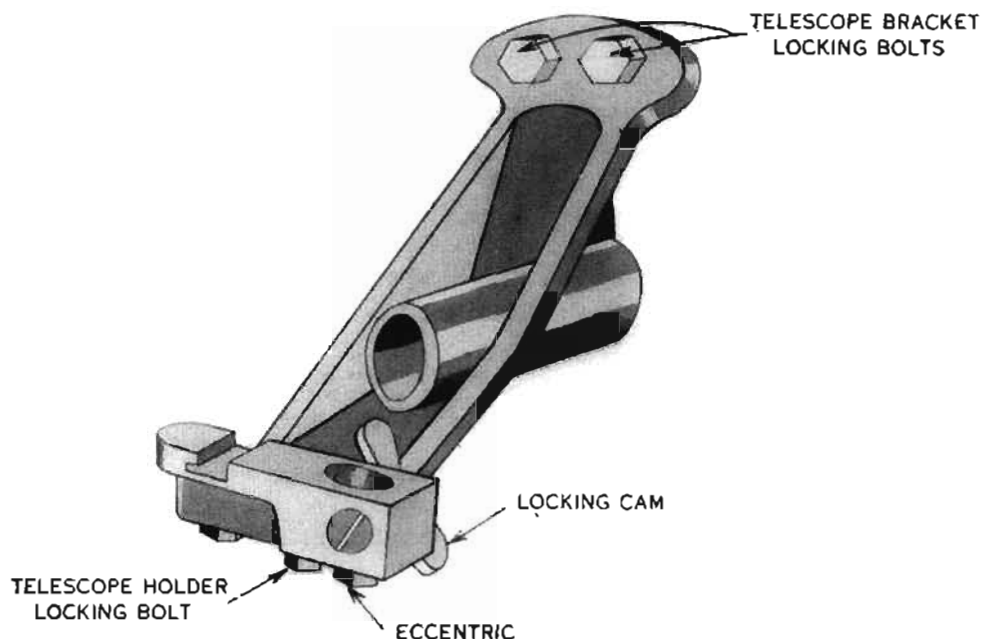

Figure 48
- (1) Pick out clearly defined object at least 1000 yards from destroyer, if possible, and choose definite part of this object—preferably a corner.
- (2) Using boresights, or suitable substitutes (see C below), aline tube on the distant point. Note carefully exact part of point on which tube is alined.
- (3) Check sight to see if zero range and lead lines intersect on same elements of the point respectively as vertical and horizontal crosshairs do.
- (4) If crosshairs do not coincide, adjust as follows:
- (a) To aline zero range line, loosen bracket locking bolts on sight mount. Tap mount forward or back until zero range line is on proper part of aiming point. Tighten bracket locking bolts; recheck tube (fig. 48).